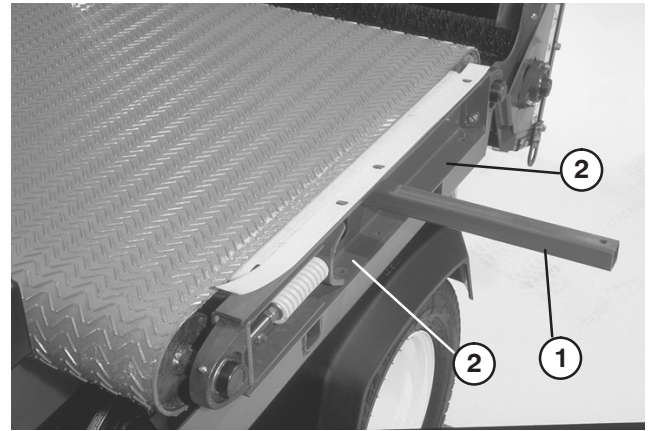

Figure 29
7. Remove (2) capscrews, washers and nut, on left side of machine, securing slider bed to frame (Fig. 29).